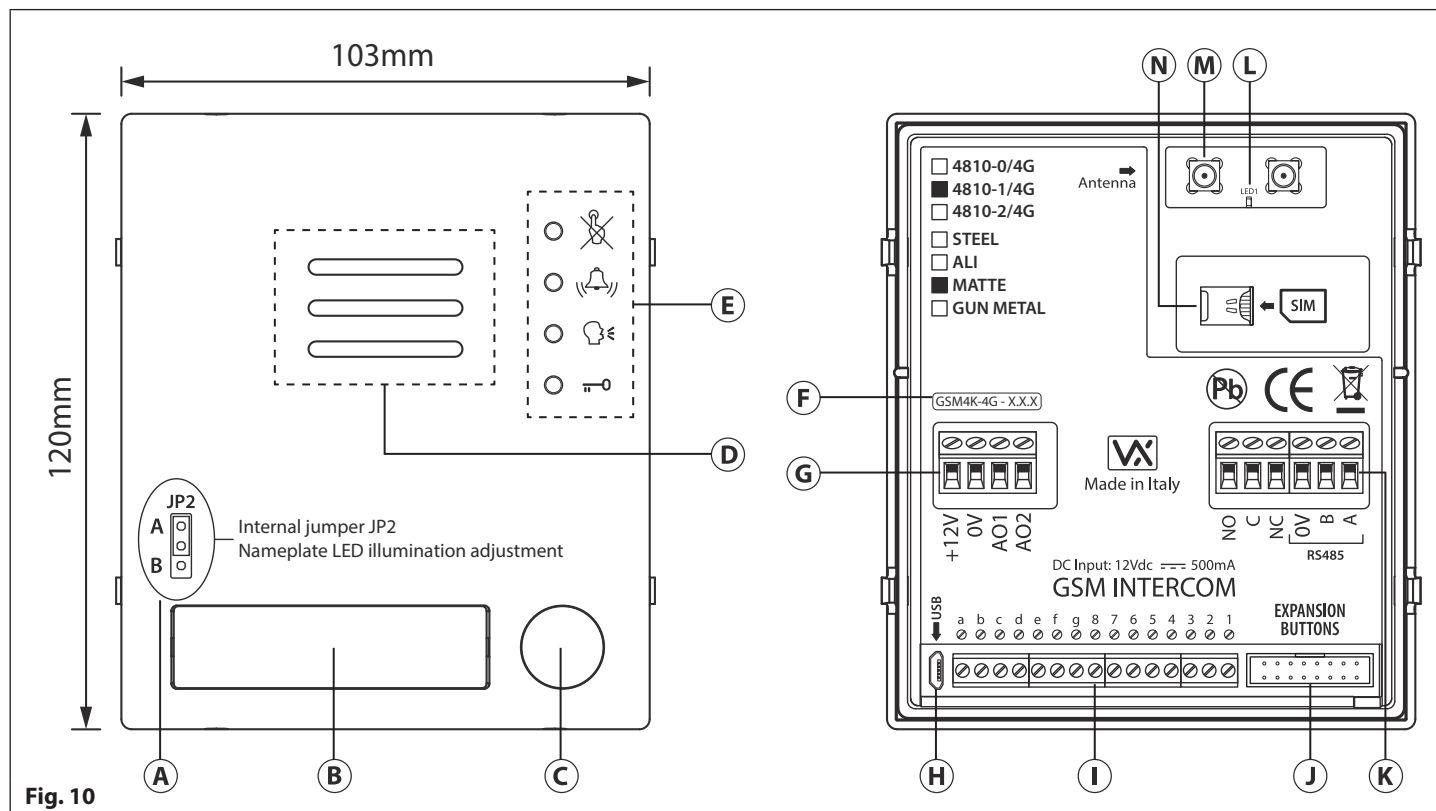

Fig. 10
The nameplate LED illumination jumper **JP2** is located behind the GSM module's front fascia, as shown in **Fig.10**, (A). To access the jumper the fascia must be removed and the jumper can be adjusted as required. When **JP2** is set in position A (upper 2 pins) the LED is set for bright illumination, when **JP2** is set in position B (lower 2 pins) the LED is set for low illumination and if **JP2** is completely removed this will disable the nameplate LED's.